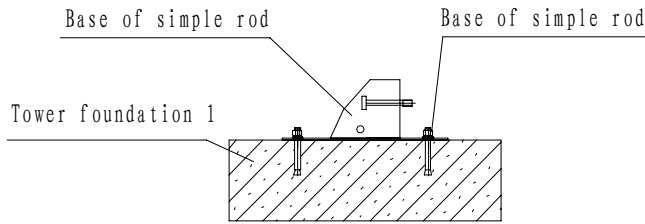

Fig. 2
- (1) Fix the base of simple rod on the tower base 1, keep the plane of tower tube base at level (Fig. 2)